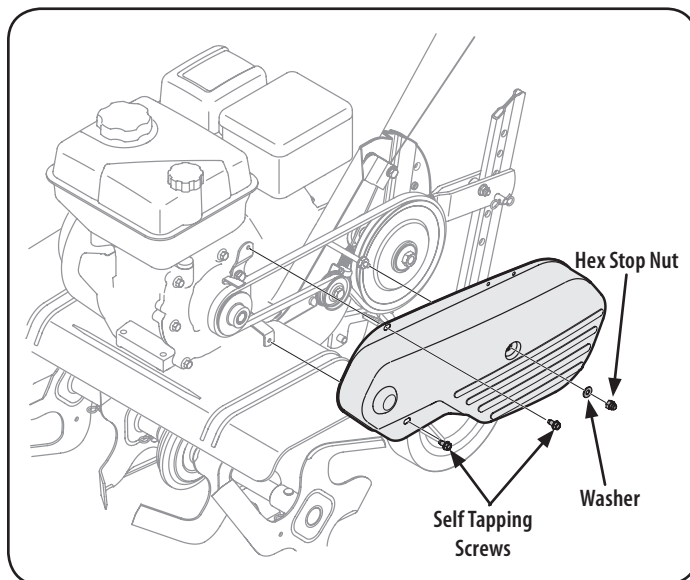

Figure 27
1. Remove the belt cover from the left side of the tiller by removing the two self tapping screws and hex stop nut and washer. See Figure 27.
NOTE: Upon reassembly, make certain that the idler pulley keeper is as shown in Figure 27. Take note of the notch on the bottom of the keeper and the alignment when reassembling with the replacement belt.